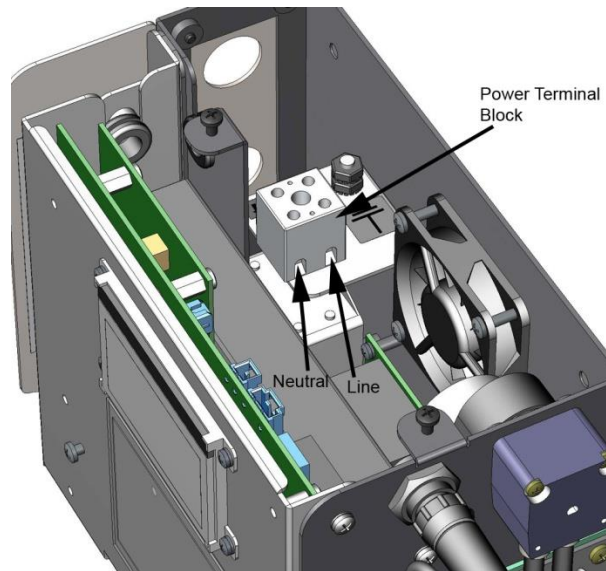

Figure 8: Attaching the Existing Power Wires
12. Connect the existing wires to the power terminal. When viewed from the right side of the Sensor, neutral (blue wire) connects to the left port and line (brown wire) connects to the right port (see Figure 8: Attaching the Existing Power Wires). For each wire, insert the wire into the port and then use a small screwdriver to tighten the screw on the top of the terminal block to secure the wire.